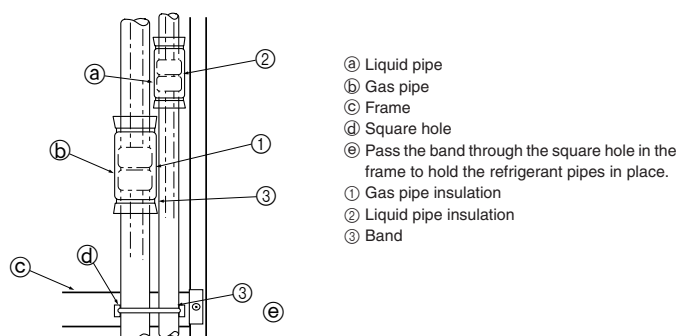

Fig. 4-5
Insulate flare joints ① and ② of the gas and refrigerant pipes completely. If any part of the joints are exposed, condensation can drip down. (Fig. 4-5)
- Fasten the gas pipe insulation ① and the liquid pipe insulation ② at both ends so that they will not slip and align with one another.
- After the insulation is installed, use a band ③ to fasten the refrigerant pipe to the frame (below the pipe joint section). This will prevent the refrigerant pipe from lifting up off of the frame.